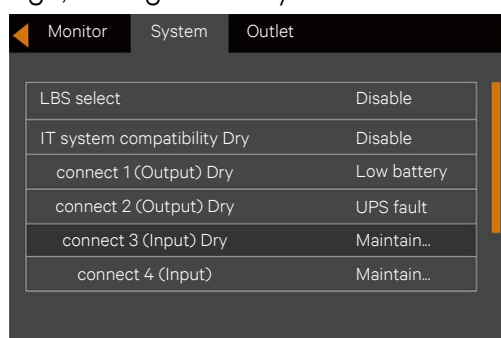

Figure 5-7 Changing dry contact 3 to 'Maintain mode'
1. Through the LCD settings page, change the Dry connect 3 to 'Maintain mode'. See Figure 5-7.